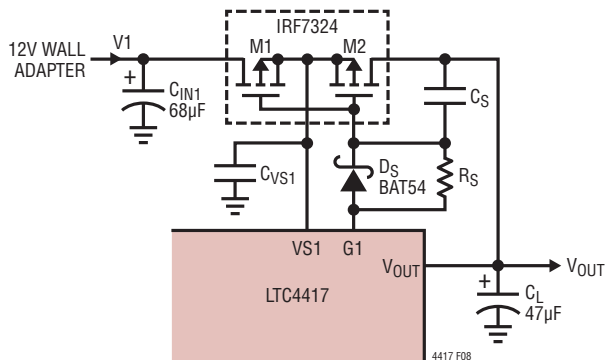

Figure 8. Slew Rate Limiting Gate Drive
Equation (13) assumes no inrush current limiting circuitry is required. If it is required, refer to Figure 8 and use the following Equation (14) for C_L .
where R_S and C_S are component values shown in Figure 8. The selection of R_S and C_L involves an iterative process. Begin by assuming $0.79 \cdot R_S \cdot C_S = 10\mu s$ and choosing C_L using Equation (14). See the Inrush Current and Input Voltage Droop section for more details regarding inrush current limiting circuitry, and for selecting R_S .
In situations where input and output capacitances cannot be chosen to set the desired maximum input voltage droop, or the peak inrush current violates the maximum Pulsed Drain Current (I_{DM}) of the external P-channel MOSFETs, inrush current can be limited by slew rate limiting the output voltage. The gate driver can be configured to slew rate limit the output with a resistor, capacitor and Schottky diode, as shown in Figure 8. The series resistor R_S and capacitor, C_S , slew rate limit the output, while the Schottky diode, D_S , provides a fast turn off path when G1 is pulled to VS1.